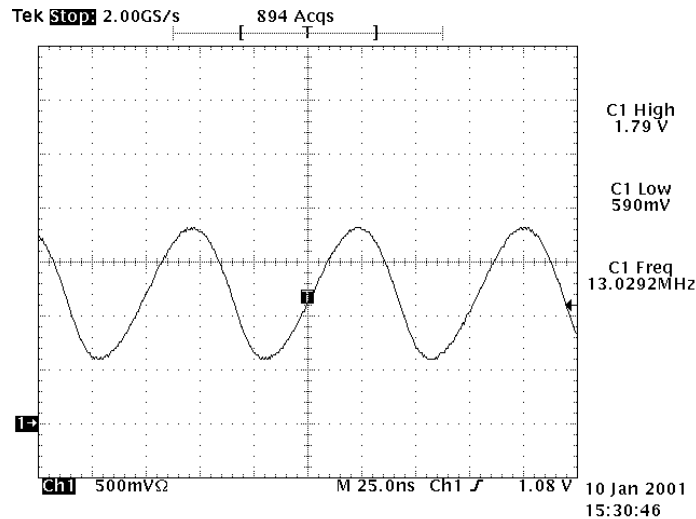

Figure 18. 13 MHz sine wave
1. Open the smaller RF shield metal can. Check Hagar RFC-out signal at V800. It should show sine wave of 1.2V amplitude, 13MHz frequency (see Figure 18 ).